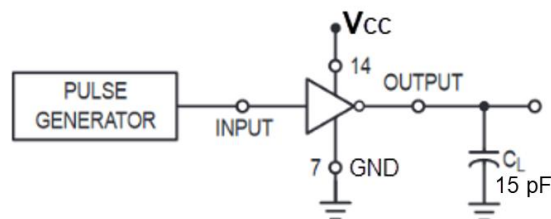

Fig. 2. Technology characteristics for the logic family ALS-TTL.
- The required multiplexer *MUX_8* in the previous section 4 is built by expanding *MUX_2*, which is implemented using classic technology ALS gates (Fig. 2). Deduce and explain the *Circuit* maximum speed and its power consumption when powered at 5 V. How long does it take to complete the VHDL test bench simulation of the circuit running at maximum speed?
5. Determine the maximum speed of operation (mops) if synthesised using classic ALS logic gates as in Fig. 2. Draw the testbench schematic and calculate how long it will take to simulate and verify all the circuit functionality.